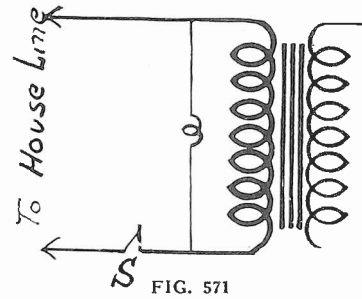

FIG. 571
(2)—It should be connected in parallel with the primary of the power input transformer as shown in Fig. 571.